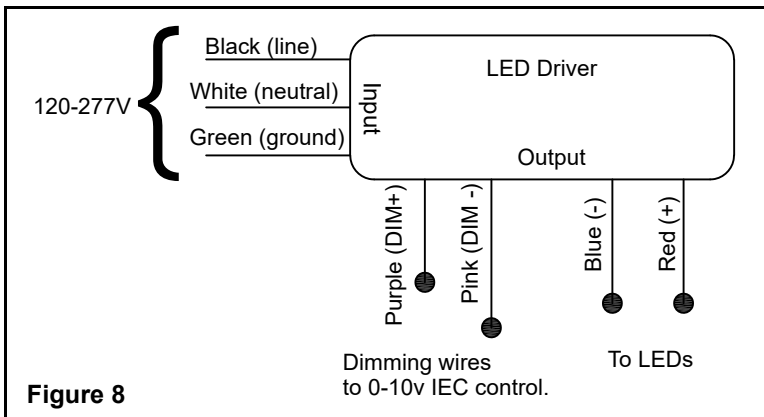

Figure 8
3. Make the proper connections: connect the white wire (neutral) and the black wire (line) to the building power supply (see fig. 8). Minimum 90° supply wires required.